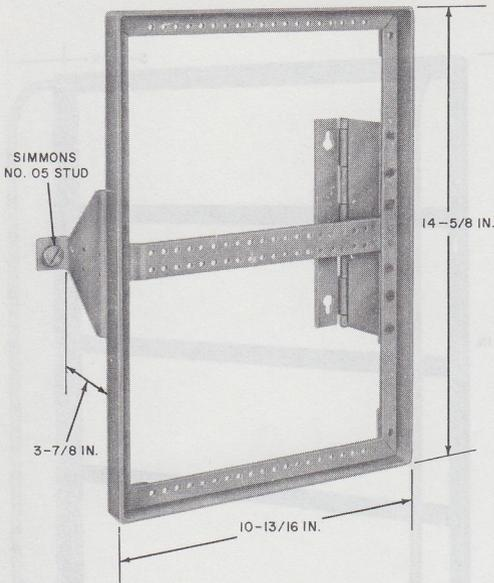

Fig. 8—31A (MD) Apparatus Mounting
3.05 The 31A (MD) apparatus mounting (Fig. 8) is a hinged metal framework approximately twice the size of a 15A apparatus mounting. It is primarily used to mount panel-type 200-series KTUs, mounts on a 173B backboard, and may be enclosed with a 116A cover. The 31A apparatus mounting framework, less welded hinge and quick fastener details, is obtainable as an 811331131 (P-13C113) frame assembly and may be mounted singly or in pairs on 23-inch span frames with the aid of two 813538733 (P-35C873) mounting bars. The 31A apparatus mounting may also be mounted on a 177A backboard by using a D-179862 kit assembly.